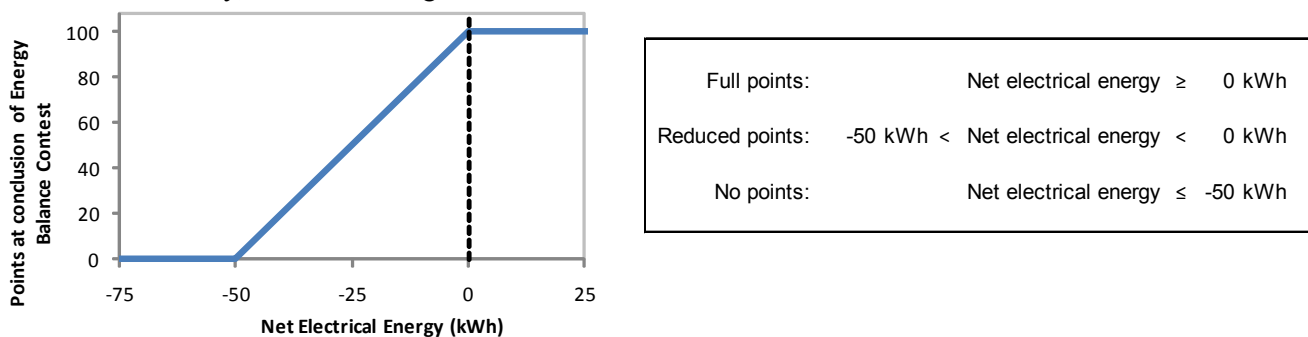

Figure 10: Scoring function for the Energy Balance Contest
- a. Reduced points are earned for a net electrical energy balance between -50 kWh and 0 kWh. Reduced points are scaled linearly, as shown in Figure 10.